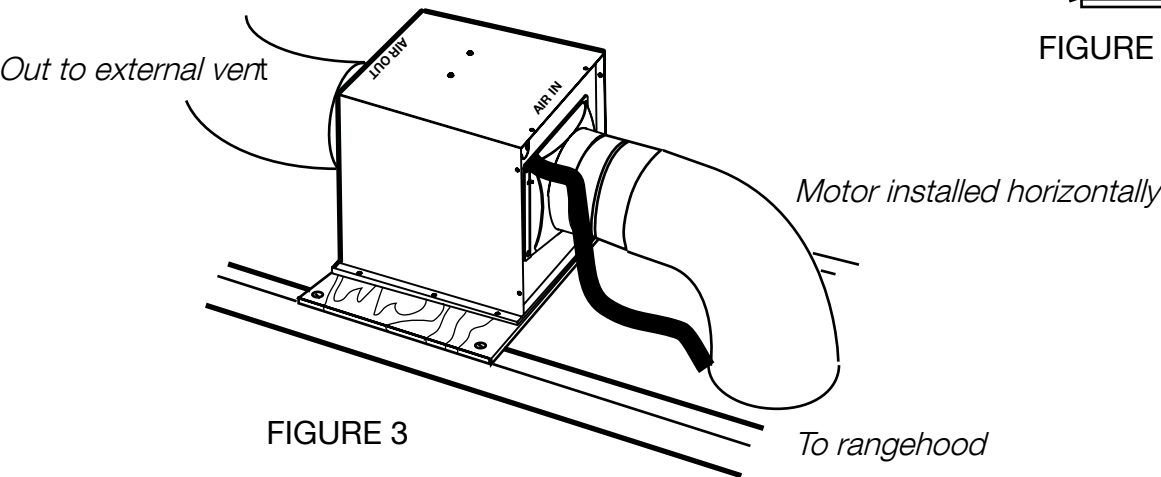

FIGURE 3
2. Using the screws provided mount the motor unit onto a suitable structure in the roof space. Check that the direction of air is flowing the right way! Mount on a board across the roof joists if required. FIGURE 3.